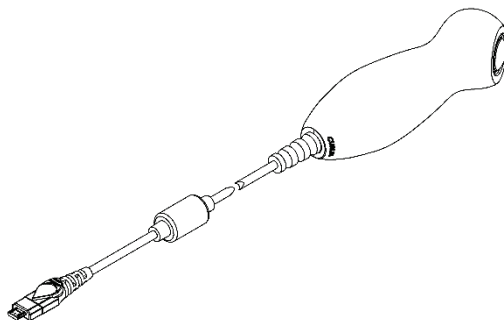
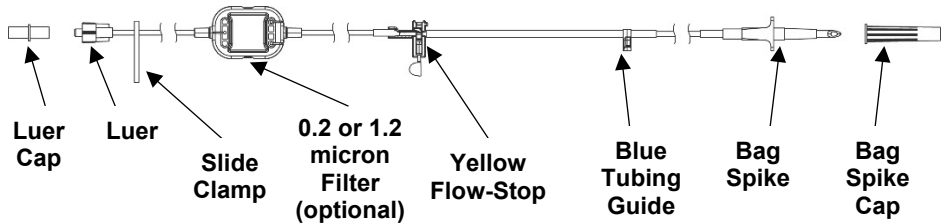

Figure 7: PCA Bolus Handset and Cord
Figure 8: Example Administration Set
A PCA bolus handset may have been provided with your pump (Figure 7). One end of the handset is attached to a long cable and the other end has a large purple button. For ease of use, the patient may prefer to use the button on the handset to request a bolus of medication instead of using the BOLUS button on the pump keypad.
Figure 8 is an example of an administration set. Yours might look slightly different, but will have most of the labeled parts. (Not all administration sets include air eliminating filters.)
4. Twist and break off the tab on the yellow flow-stop. See Figure 7 and Figure 8.
3. Pinch the yellow flow-stop between your thumb and forefinger to allow the fluid to flow. See Figure 8 and Figure 12.
6. Close the slide clamp. See Figure 8.
1. Ensure that the slide clamp is closed. See Figure 8.
2. Remove the luer cap on the administration set (see Figure 8).